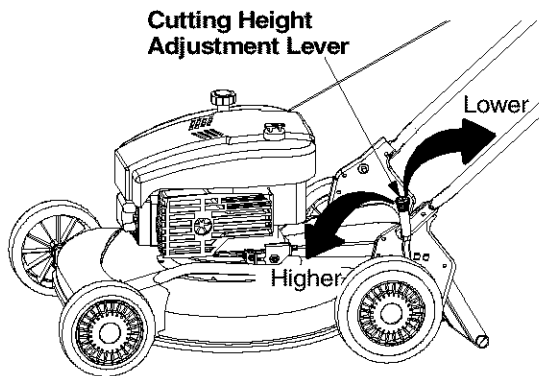

Figure 11
- Pull the lever out and away from the mower and then move it forward or backward to another slot. See Figure 11.